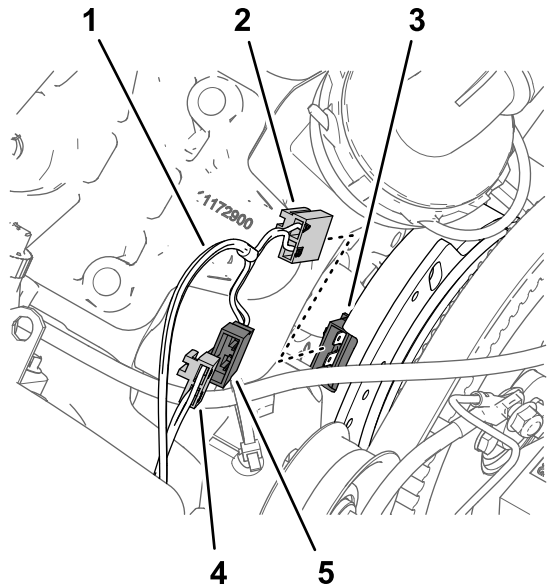

Figure 166
2. Connect the 2-pin connector of the kit wire-harness branch—84 cm (33 inches) labeled PUMP CLUTCH into the 2-socket connector of the machine wire-harness labeled SPRAY PUMP COIL (Figure 166).
3. Connect the 2-socket connector of the kit wire-harness labeled PUMP CLUTCH into the 2-pin connector of the alternator (Figure 166).